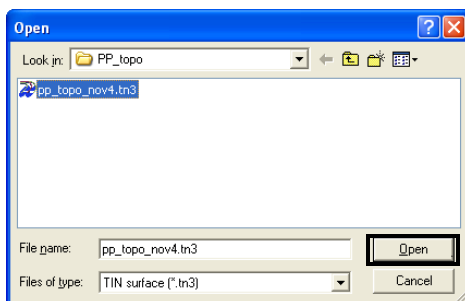

Figure 5-5. Open 3D TIN Surface File
2. On the *Open* dialog box, navigate to the location of the file, select the file type as TIN surface (*.tn3), select the desired file, and press **Open** (Figure 5-5).